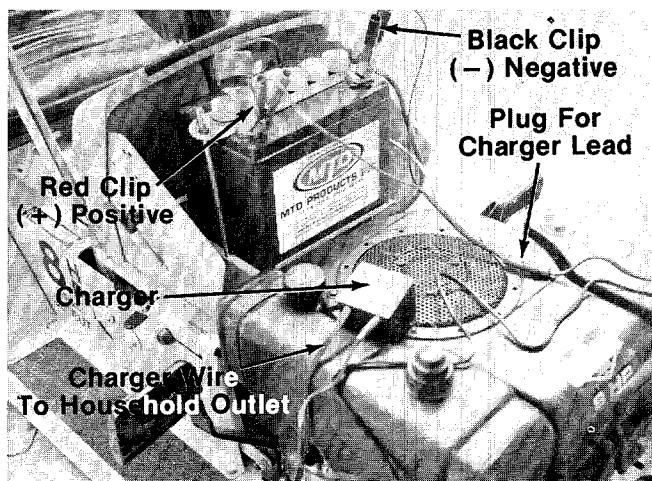

FIGURE 9.
- 5. Charge the battery at a **MAXIMUM RATE OF 5 AMPS.** until the specific gravity reads 1.265. See figure 9. Use a hydrometer to check the specific gravity.
- F. The lawn tractor is shipped with a battery charger and charger lead. When ever charging is required, attach the red clip to the positive (+) terminal and the black clip to the negative (-) terminal. Then plug charger lead into charger. Plug charger into standard household outlet. See figure 9.